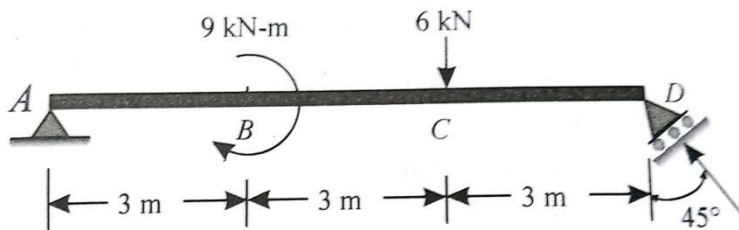

Figure 2.3
3. A beam ABCD as shown in Figure 2.3 is simply supported on a hinged support at A and on a roller support at D inclined at 45° with the vertical. Determine the horizontal and vertical components of reaction at support A. Also find the direction and magnitude of the resultant at A.